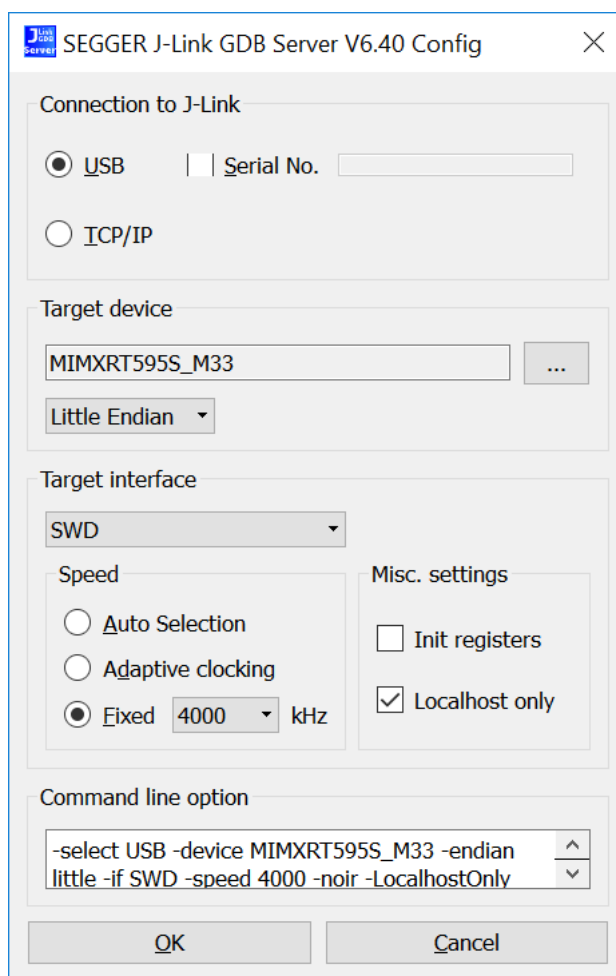

Figure 36. SEGGER J-Link GDB Server configuration
4. Modify the settings as shown in Figure 36. The target device selection chosen for this example is **MIMXRT595_M33**.